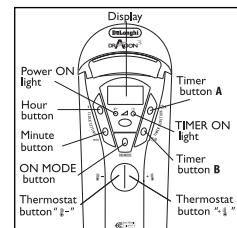

Fig.5
- At this point, the word “**AUTO**” appears at the top of the display and the “**TIMER ON**” indicator light comes on to indicate that the radiator is ready to operate at the programmed time maintaining the preset comfort temperature (fig.5).